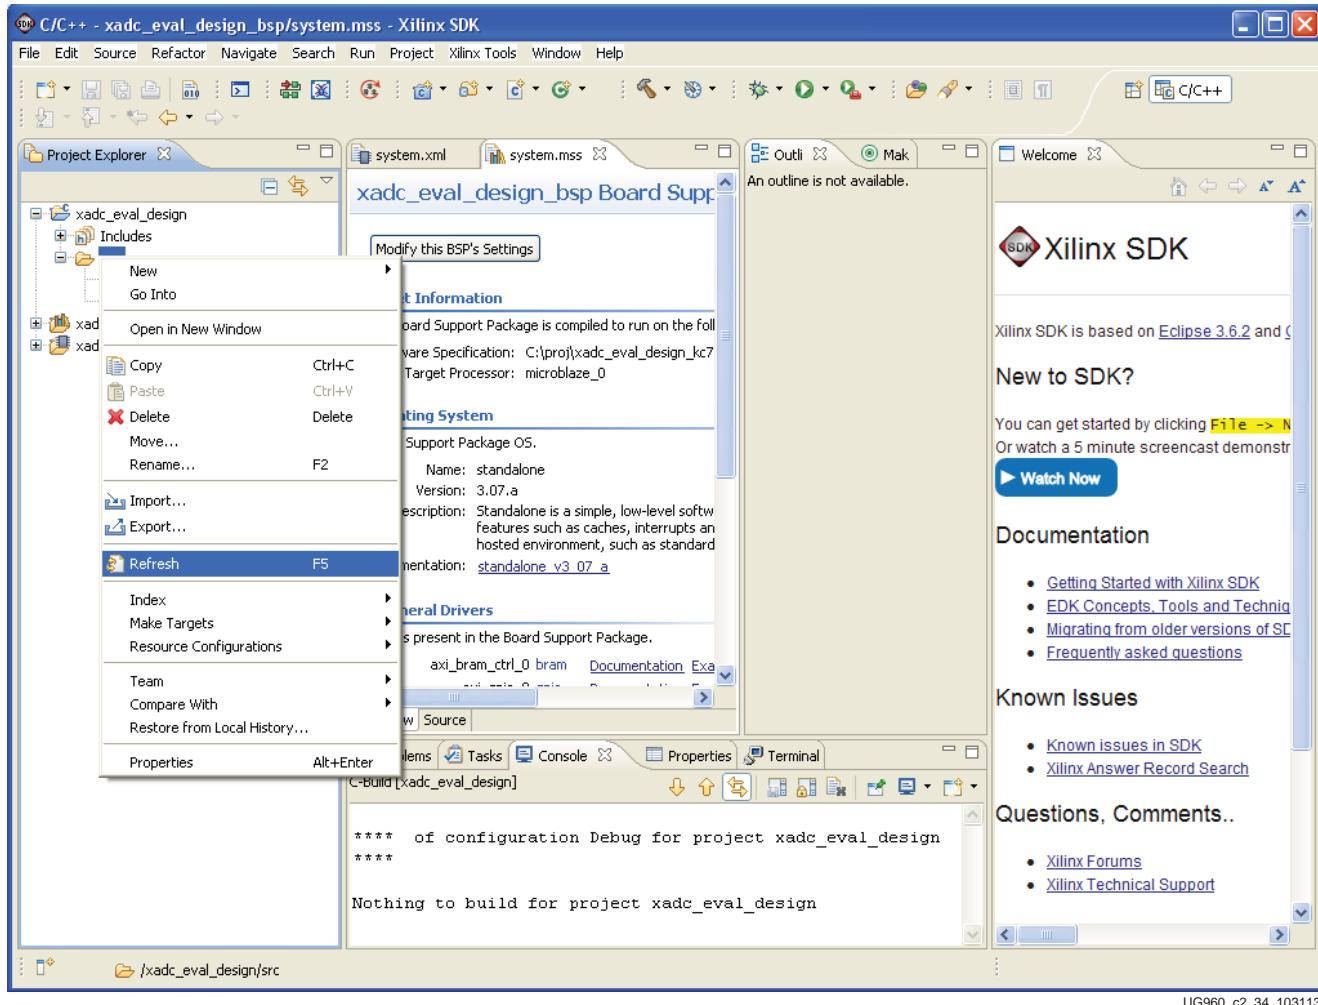

Figure 2-34: Refresh Source Files
15. Select **xadc_eval_design > src** and right-click to select **Refresh** as shown in Figure 2-34.